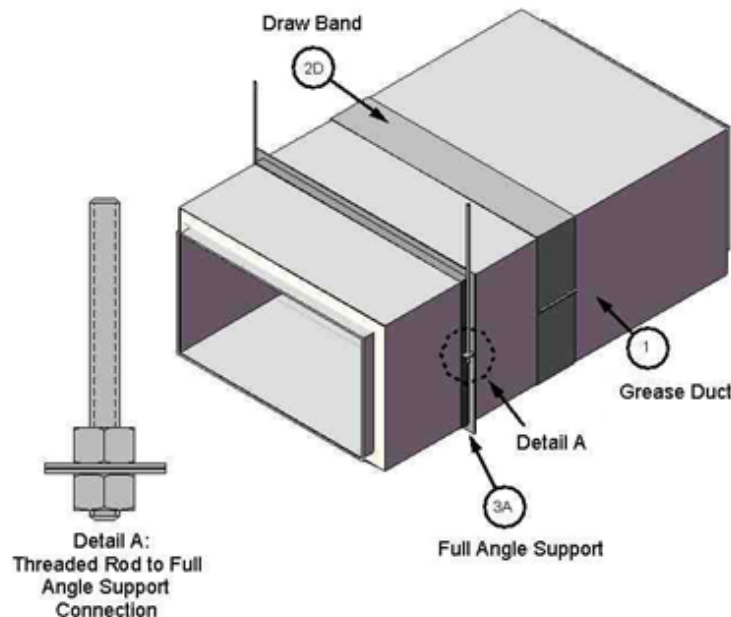

Figure 1. Model DWGD-RZ Grease Duct
Reference Figure 1. Install Pre-Fabricated Grease Duct in compliance with the requirements of NFPA 96, the International Mechanical Code (IMC), or other regulatory
A. **HORIZONTAL SUPPORTS** – Support the Pre-Fabricated Grease Duct (Item 1) using supplied 2 in. x 2 in. x 3/16 in. steel, full-angle supports (See Figure 1) (two halves required); 2 in. x 2 in. x 3/16 in. steel angle trapeze style support; or P1000 steel Unistrut® trapeze style support with open side facing away from the duct. For the steel angle and Unistrut® options, extend these supports a min. of 2 in. from each side of the Pre-Fabricated Grease Duct (Item 1). Use min. 1/2 in. diameter threaded steel rods. Attach the threaded steel rods to the Floor/Ceiling Assembly (Item 4A) by
way of through-holes sized appropriately for the nominal threaded rod diameter and secured on top side with appropriately sized flat washer and double nut. Place one threaded steel rod on each side of the Pre-Fabricated Grease Duct (Item 1) and fasten to the support member with appropriately sized nuts (see Figure 1, Detail A). Install the rods at a max. of 1 in. from each side of the Pre-Fabricated Grease Duct (Item 1). Space horizontal supports a max. of 12 ft. on center (oc). Reduce the support spacing for larger ducts to ensure that the load on each hangar (set of two threaded rods and support member) does not exceed 500 lb. Alternatively, use manufacturer-supplied, min. 2 in. wide, min. 11 GA, steel Hangar Bands (BHB) as the supporting member, and reduce the max. load per hangar to 420 lb.